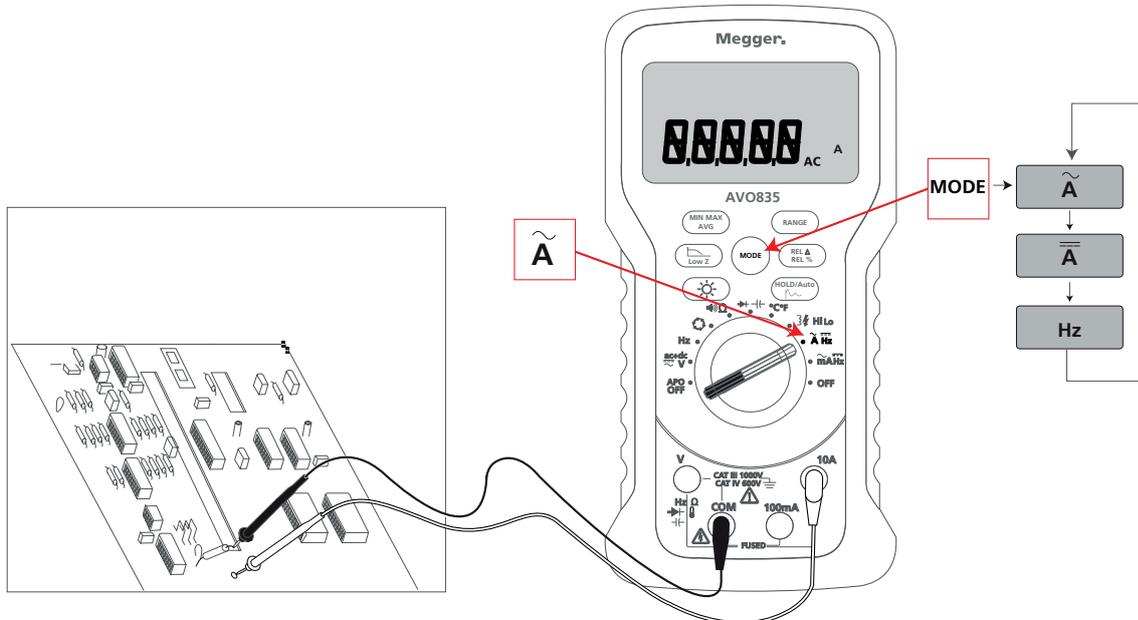

Fig 12: ≤ 10 A Measurement Set-up
1. Set-up the instrument as shown in Fig 12.